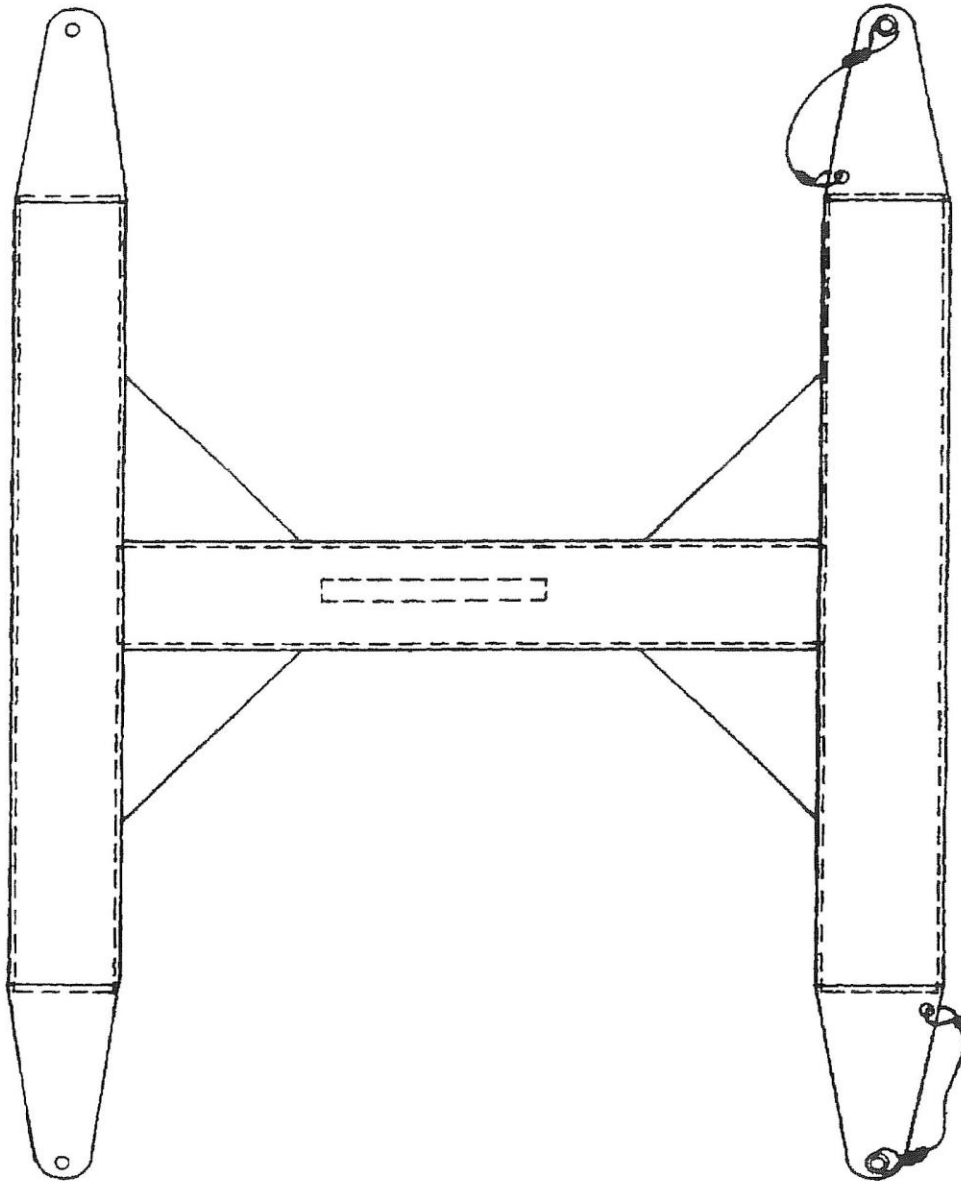

Figure 3-8. Scissor Support Bracket part No. 8140552-10
- Scissor Support Bracket, Figure 3-8 (locally manufactured in accordance with Air Force Drawings 8140552 and 8140553, CAGE: 98750). Scissor Support Bracket may be used when maintenance is being accomplished on stand scissors.